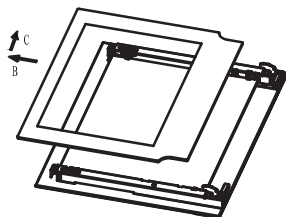

Fig. 2.
- Now, shutting the door slightly, you can lift it out by pulling out the hooks "A" as shown in figure 2.
2. Take out inner glass slowly (Fig.2)